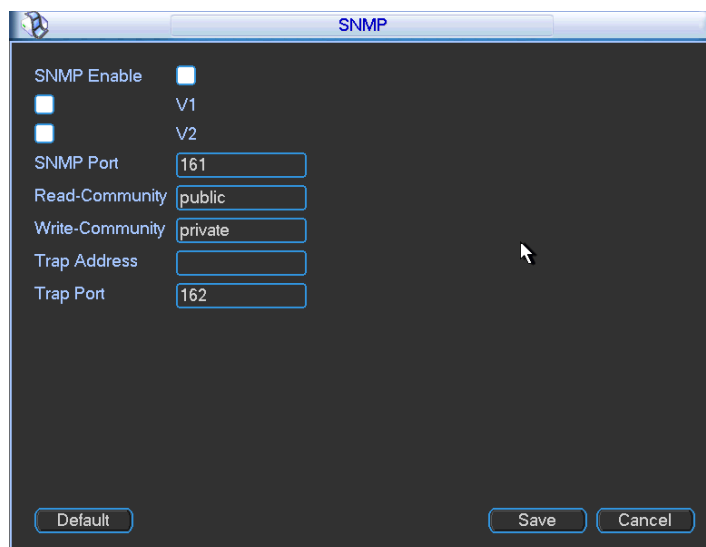

Figure 5-53
You can set in the following interface. See Figure 5-53.
- In Figure 5-53, check the box to enable the SNMP function. Input the IP address of the PC than is running the software in the Trap address. You can use default setup for the rest items.